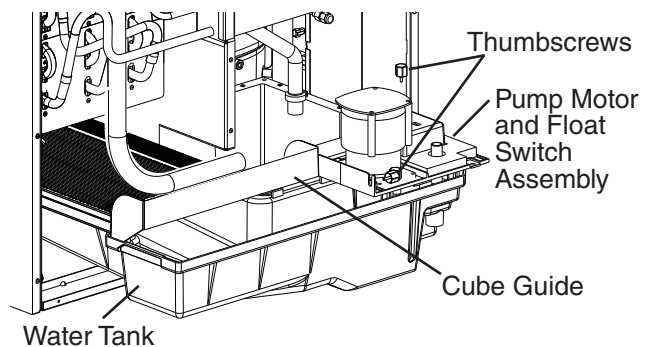

Fig. 20
- d. Remove the 2 thumbscrews securing the pump motor and float switch assembly. See Fig. 20.
- 11) Replace insulation panel (A) and the front panel in their correct positions.